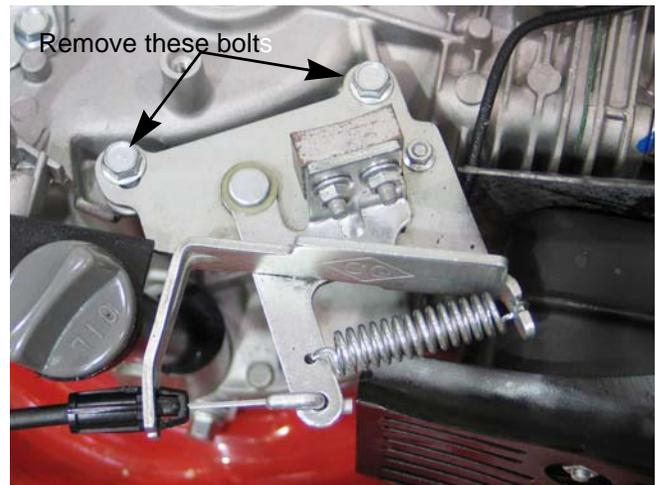

Figure 7.19
6. Remove the two bolts securing the brake assembly. See Figure 7.19.